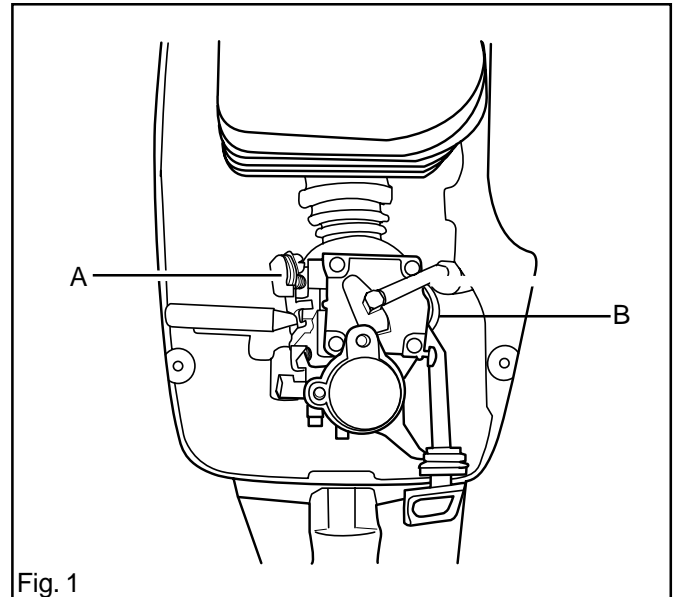
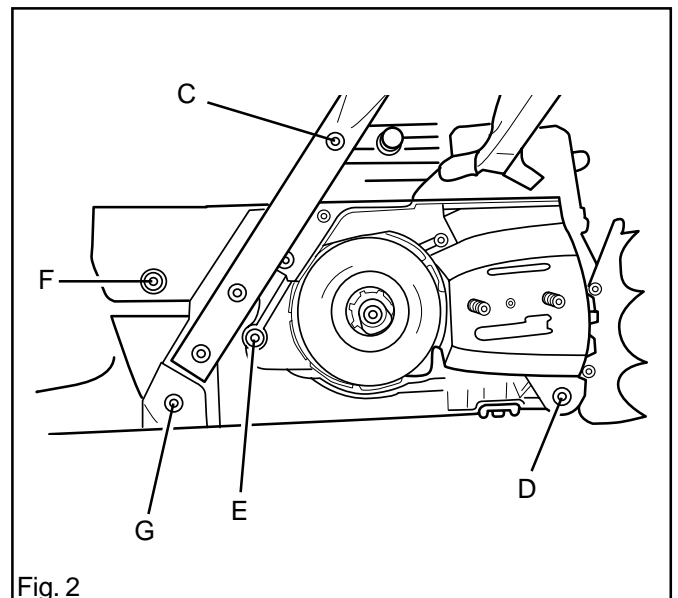

Fig. 1
Fig. 2
3. Unhook the throttle cable (A) from the carburettor and push out the cable casing from its attachment. See fig. 1.
4. Remove the fuel pipe (B) from the carburettor.
5. If the chainsaw is fitted with hand grip heating, release the cable at C. See fig. 2.
6. Remove the bolts (C, D, E and F). See fig. 2.
9. If the tank guard (chain deflection/break) (G) is damaged, it must be replaced. See fig. 2.
10. If necessary, lift out the fuel pipe and pull off the fuel filter. Use tool 502 50 83-01, see pos. 17, page 9.
8. Fit the bolts (C, D, E and F). See fig. 2. Tighten the bolts to the torque in the service data, page 12-13.
2. Remove the spring on the cylinder with a 4 mm Allen key. See fig. 1.
3. Remove the springs on the tank unit with a 4 mm Allen key. See fig. 2.
1. Remove the springs on the cylinder with a 4 mm Allen key. See fig. 1.
2. Unscrew the anti-vibration spring (B) from the cylinder. See fig. 1.
3. Unscrew the cylinder's four bolts (C). See fig. 1.
5. Cover the crankcase opening immediately with a sheet of paper or a cloth. See fig. 2.
6. Remove one of the piston's circlips, press out the gudgeon pin, and remove the piston. See fig. 2.
8. Unscrew the decompression valve (D). See fig. 1.